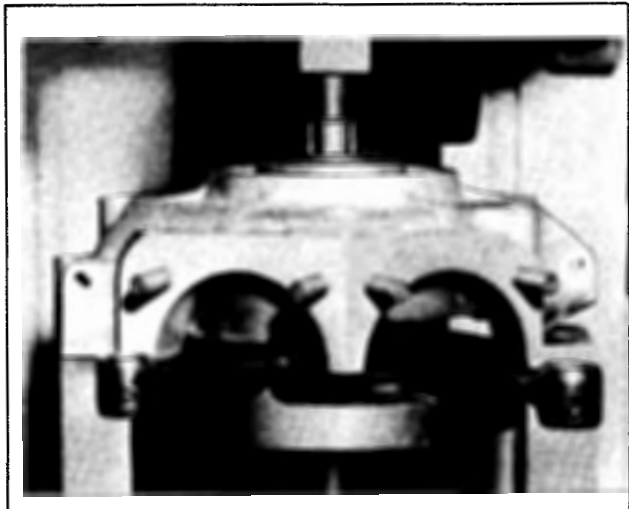

Figure 3-36. Pressing Flywheels Out of Crankcase
5. Position crankcase with gearcase (right side) up. Tap crankcase with rawhide or soft metal mallet to loosen top half. Lift right crankcase half (1) off pinion shaft main bearings. Remove spiral lock ring (2) from pinion shaft with tip of screwdriver. Lift bearing washers (3 and 5) with bearings and bearing retainers (4) off pinion shaft.
6. Mount flywheel and left case assembly on press table supporting case on parallel bars (Figure 3-36) and press on end of sprocket shaft with arbor press until flywheel assembly (8) drops out, freeing sprocket side bearing half (9), spacer (6) and spacer (10). Remove seal (7).